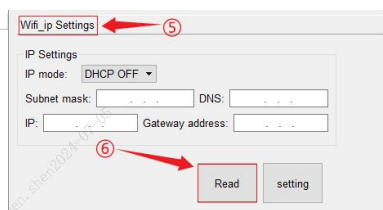

Fig.2
4. Select "wifi\_ip Settings" and click "Read" to obtain IP information (shown in Figs.2 and 3).